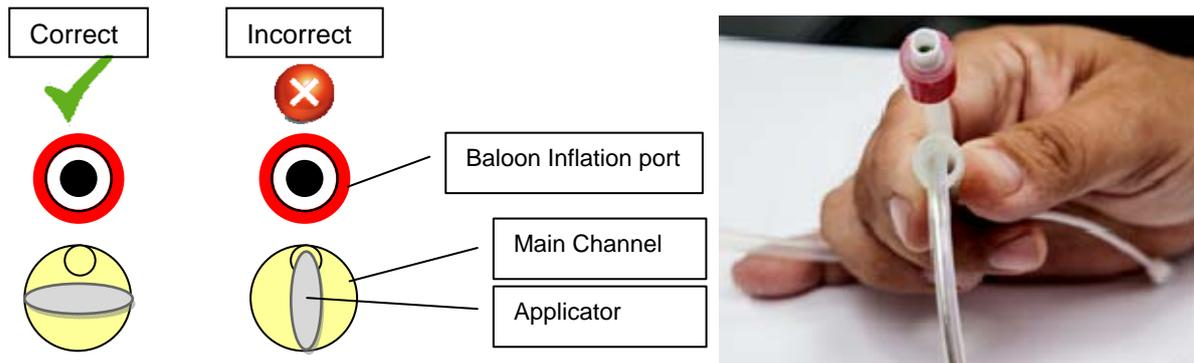

Figure 4-2: Applicator Catheter Orientation
1. Insert the applicator into the main channel of the catheter according to figure 4-2.